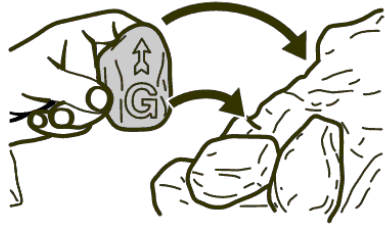

Figure 38. Third row "Coal G"
11. Hold coal 'G' upright with the arrow pointing to the top. Locate coal 'G' as shown in figure 38.